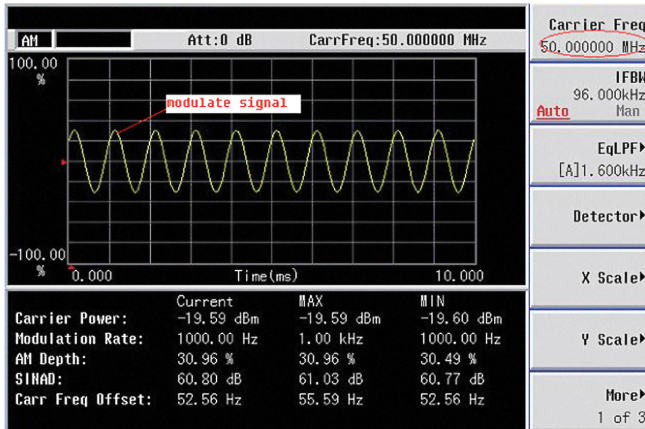

Figure 4. The AM signal measure results
Step 2: Enable the AMA option and set the carrier frequency to 50 MHz; leaving the other parameter settings at their default values. Then observe in Figure 4 how quickly the measurement results are provided.
From Figure 4, we can see the modulation metrics for this signal. The current measurement results show a carrier power of -19.59 dBm, a modulation rate of 1 kHz, AM depth of 30.96%, a SINAD (in a 96 kHz IF bandwidth with a 1.6 kHz low pass filter) of 60.8 dB, and a carrier frequency offset of 52.56 Hz. Possibly, the carrier frequency offset is produced by the internal reference being asynchronous with an external reference.